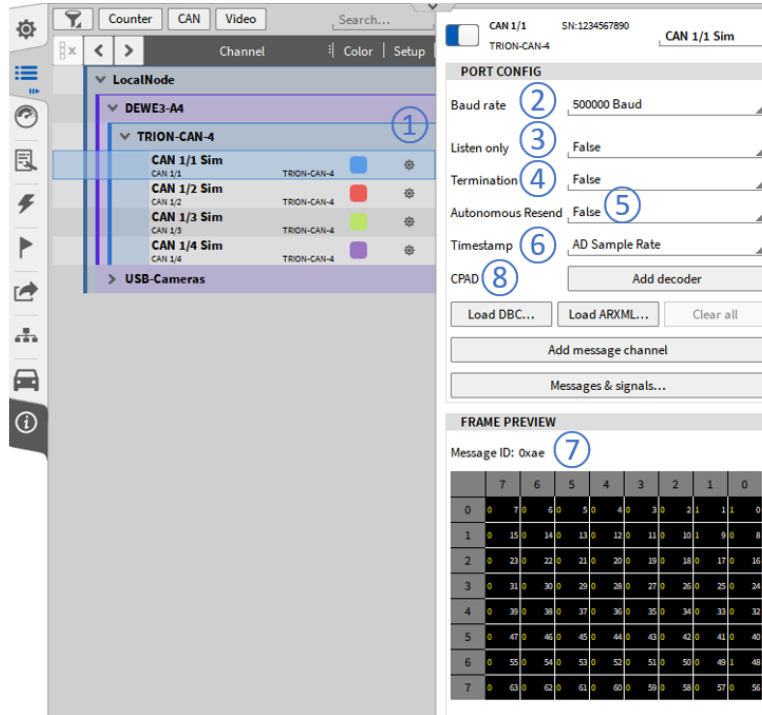

Fig. 7.201: CAN port configuration
To configure the CAN port properly, go to the Channel List and open the CAN port configuration of the dedicated CAN port by pressing the Gear button (see ① in Fig. 7.201).
- Baud rate (see ② in Fig. 7.201):
- Listen only (see ③ in Fig. 7.201):
- Termination (see ④ in Fig. 7.201):
- Autonomous Resend (see ⑤ in Fig. 7.201):
- Timestamp (see ⑥ in Fig. 7.201): Sets the time base on which the CAN signals are aligned.
The frame preview (see ⑦ in Fig. 7.201) will show a preview of the received messages if all settings (especially Baud rate and Termination) are set correctly and data is available on the CAN port.
CPAD (see ⑧ in Fig. 7.201): If a module of the CPAD series is connected to the CAN bus, a CPAD decoder can be added for decoding their messages and signals without the need for a proper dbc-file. For more information, refer to Using XRs / CPADs with OXYGEN.